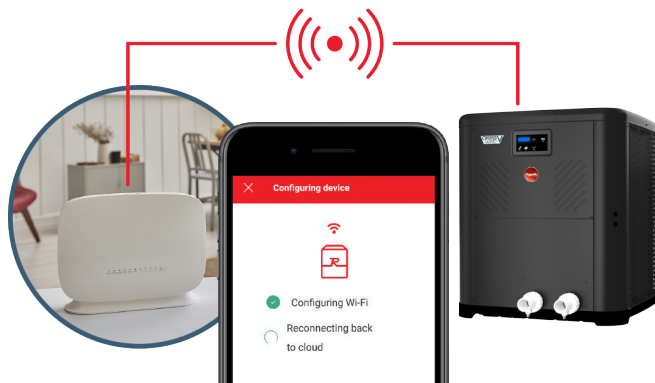

Figure 122. Reset Wi-Fi Credential
- In case of a change, proceed to reset Wi-Fi credential from heater touchscreen and reconnect the heater with Raymote app. See Figure 122.